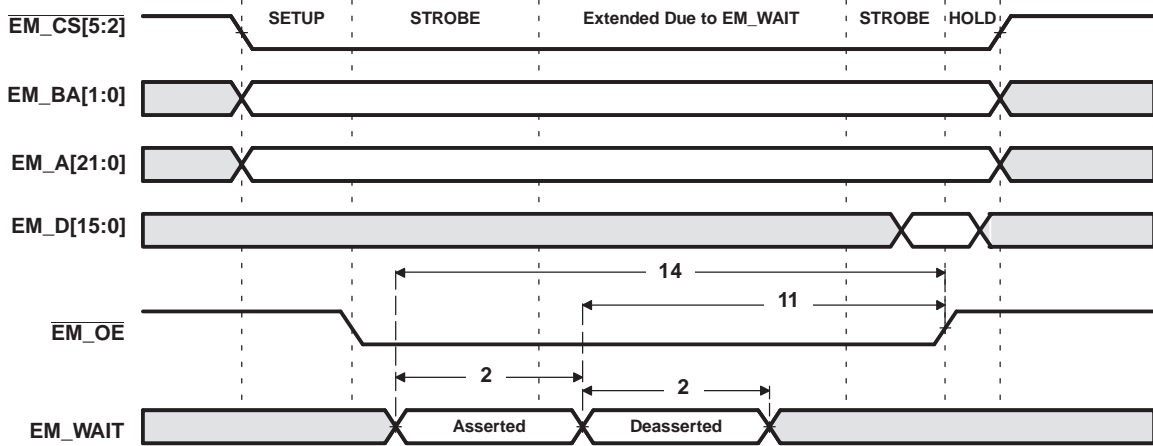
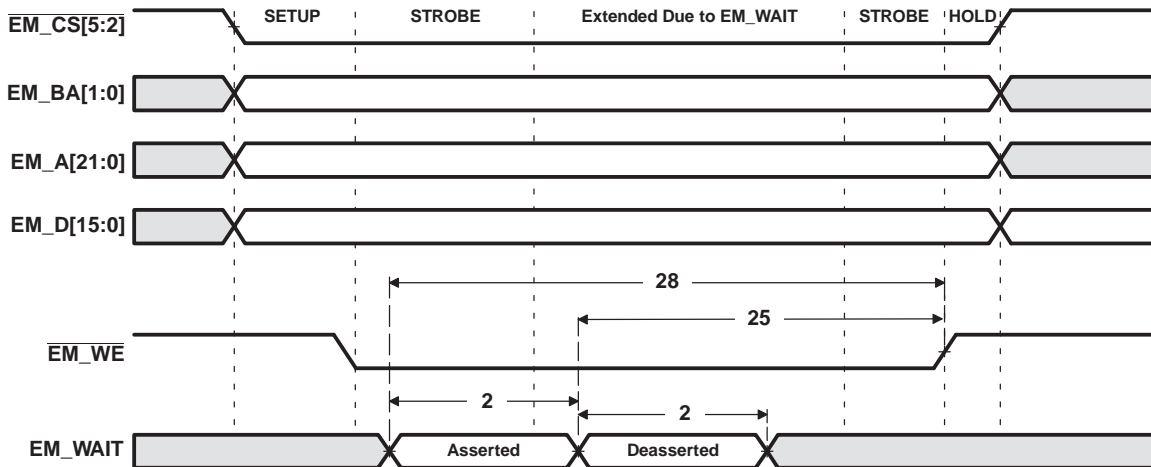

Figure 7-23. EM_WAIT Read Timing Requirements
Figure 7-24. EM_WAIT Write Timing Requirements
- (1) E = SYSCLK5 period in ns for EMIFA. For example, when running the DSP CPU at 405 MHz, use E = 14.8 ns.
- (2) Setup before end of STROBE phase (if no extended wait states are inserted) by which EM_WAIT must be asserted to add extended wait states. Figure 7-23 and Figure 7-24 describe EMIF transactions that include extended wait states inserted during the STROBE phase. However, cycles inserted as part of this extended wait period should not be counted; the 4E requirement is to the start of where the HOLD phase would begin if there were no extended wait cycles.